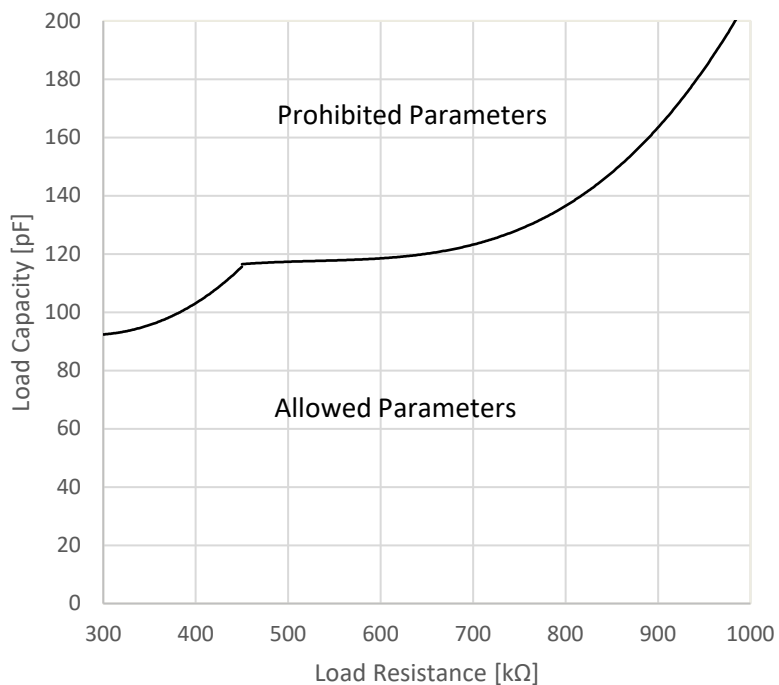

Figure 1: Range of permissible load parameters
- 5) Check whether the load has a short circuit or the maximum permissible load parameters are exceeded (see Figure 1: Range of permissible load parameters).